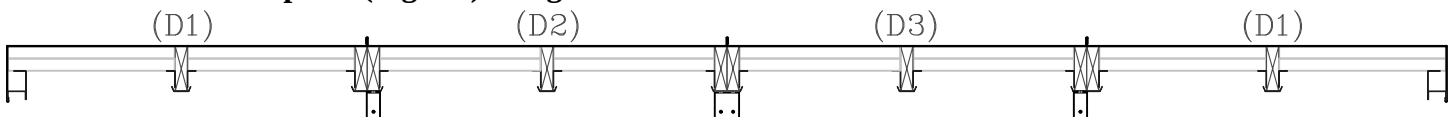

FIG. 3
11. Position the “D2” and “D3” (roof) middle panels (Fig. 3) between the “D1” (roof) end panels and set them in place. Place the “D3” (roof) panel at one end, and then fit the “D2” (roof) panel into the final position.
17. Position a Wide Roof Bracket under the “D2-D3” panel rafter connection at the “F” (support) post stud (Fig. 3) on the first side of the enclosure and then fasten it in place using four (4) Hex Head Screws.
18. Position Narrow Roof Brackets under the “D1-D#” panel rafter connections at the “B” (side) panel stud locations (Fig. 3) on the first side of the enclosure and then fasten them in place using two (2) Hex Head Screws per bracket.